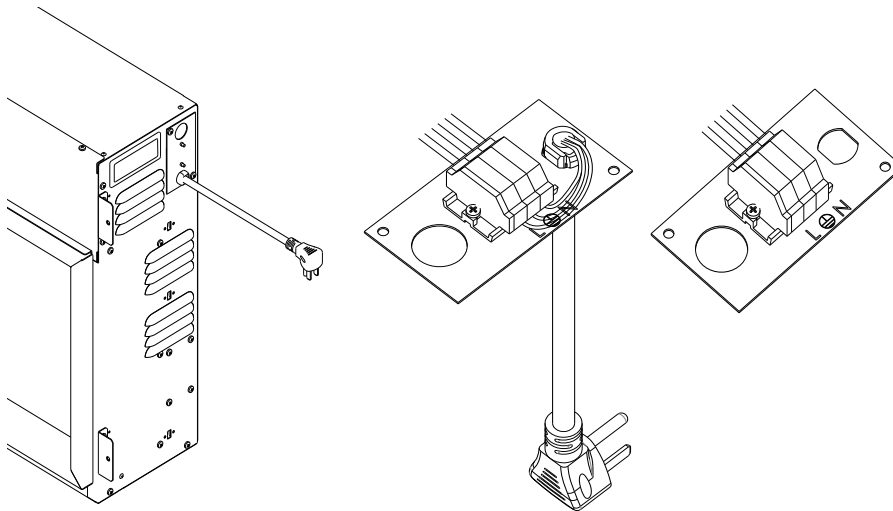

figure 3
- Remove the cord connection. (Figure 3)